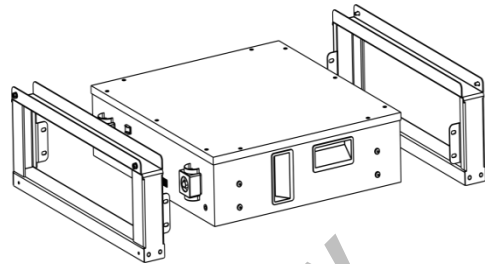

Figure3-2
1. A48100 brackets The A48100 bracket is shown before installation as shown in figure3-2.